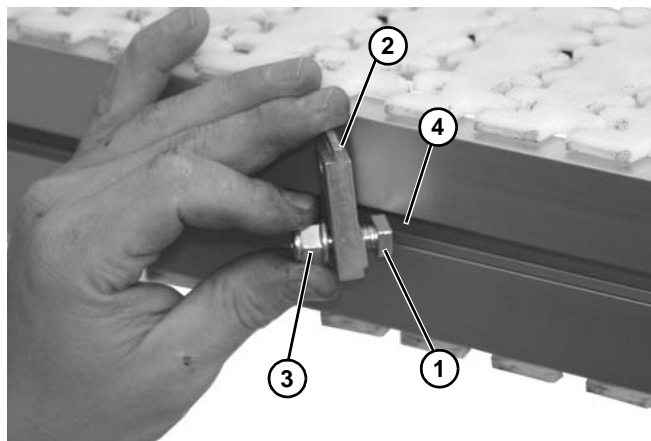

Figure 74
1. Install stud (Figure 74, item 1) onto retaining clip (Figure 74, item 2) with nut (Figure 74, item 3).
2. Install stud (Figure 74, item 1) into side rail channel (Figure 74, item 4). The end clips should be no greater than 12" from end of the conveyor.